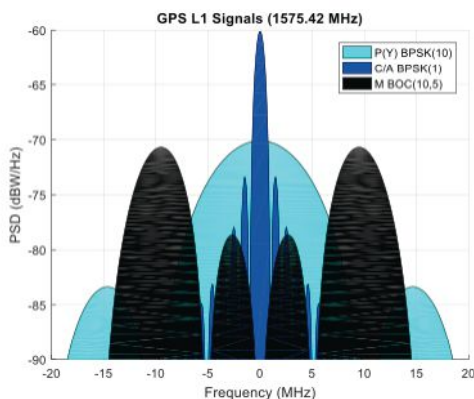

FIGURE 1 C/A, P(Y), and M-Code signal power spectra.
Until now, the military has used the classic P(Y) signal: a binary phase shift keying (BPSK)-modulated encrypted wideband signal. It offers both greater accuracy and increased jamming resistance when compared to the civilian C/A code still employed by the vast majority of GPS receivers. But the P(Y) code has its drawbacks in the modern world: its wide main lobe sits directly over the top of the C/A code signal (see **FIGURE 1**), essentially occupying the same spectrum. When the civilian C/A signal is jammed, the military P(Y) signal is at the very least degraded, if not also jammed itself.